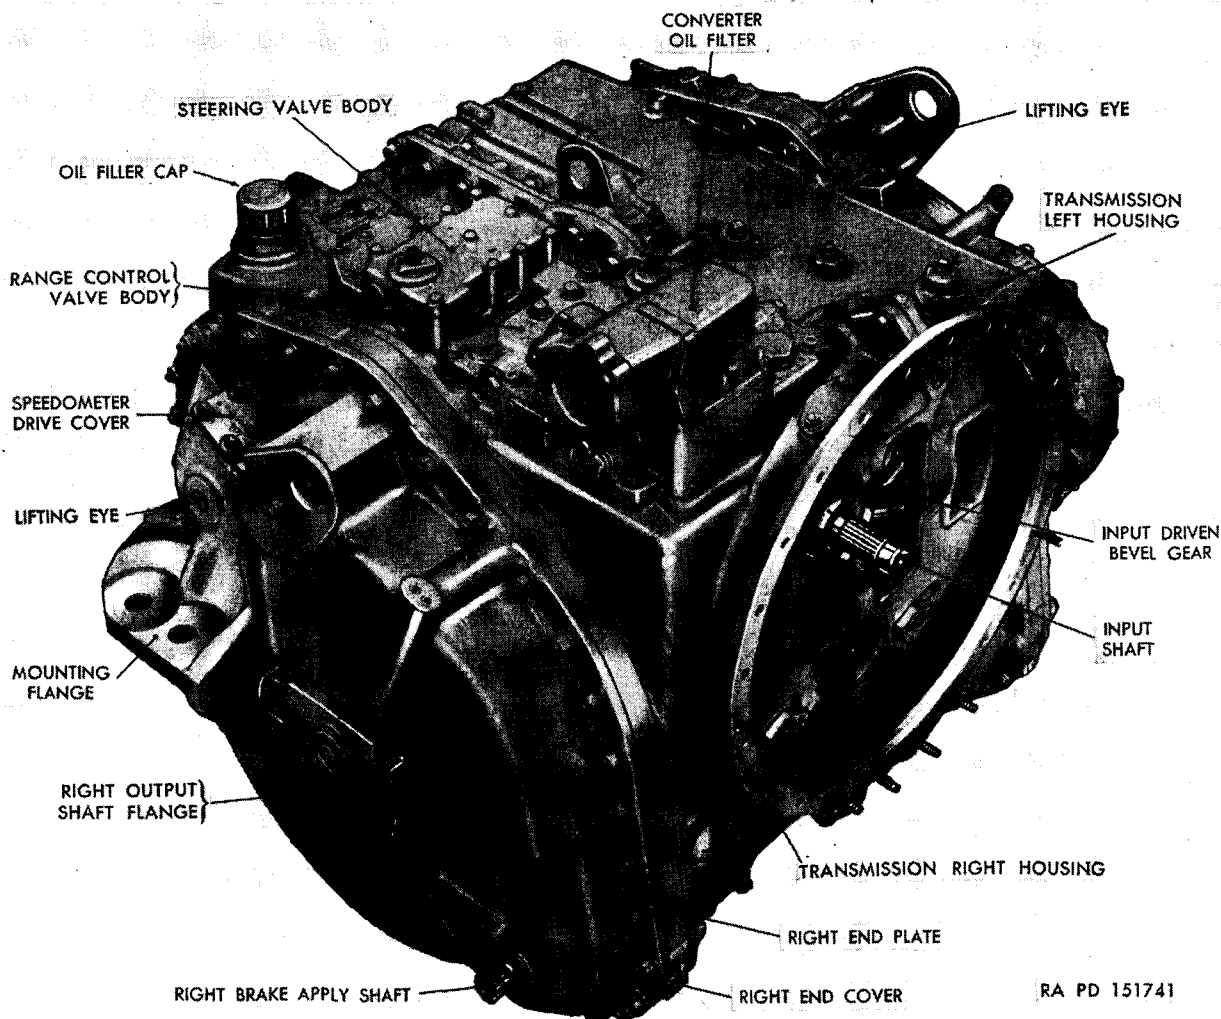

Figure 1. CD-500 cross-drive transmission, right front.
a. GENERAL. The CD-500 cross-drive transmission, is a combination transmission and steering unit designed for use with engines of 375 to 500 gross horsepower (figs. 1, 2, 3, and 4). The features of this transmission are hydraulic drive, planetary gearing, steering mechanism, braking mechanism,